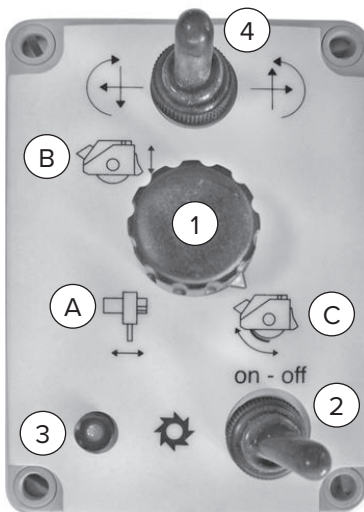

Figure 11
1. Place the selector [Figure 11, Item 1] on the scraper adjustment symbol [Item C].